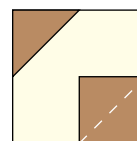
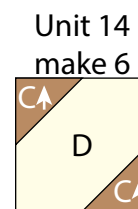

Fig. 31
Fig. 32
26. Follow Figure 31 for the seam direction to add a 2 ½" Fabric C square to the lower right corner of the 4 ½" Fabric D square to make (1) Unit 14 square (Fig. 32).
27. Repeat Steps 25-26 to make (6) Unit 14 squares total.